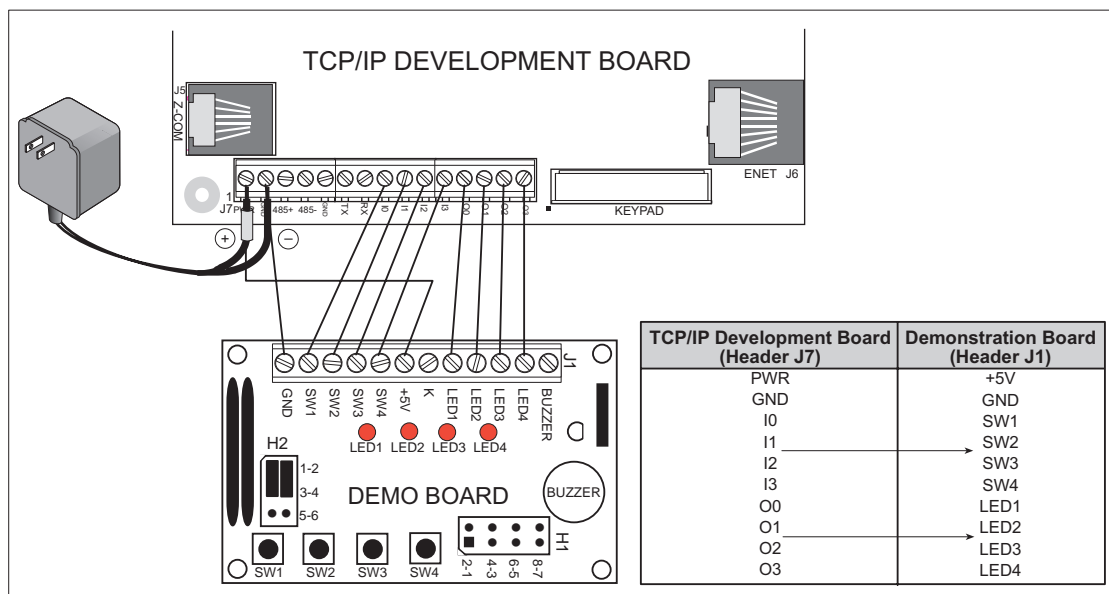

Figure 4. Connections Between TCP/IP Development Board and Demonstration Board
1. Use the wires included in the TCP/IP Development Kit to connect header J1 on the Demonstration Board to header J7 on the TCP/IP Development Board. The connections are shown in Figure 4.